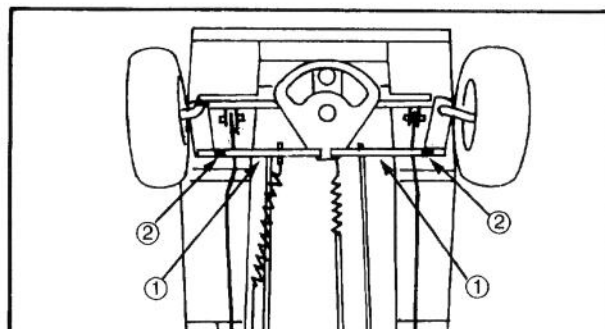

Figure 30
7. To align front wheels, loosen jamnut and turn tie rods until centerline distance across front of wheels is .06 inch (1.5 mm) to .25 inch (6.3 mm) less than centerline distance across rear of front wheels (Fig. 30).